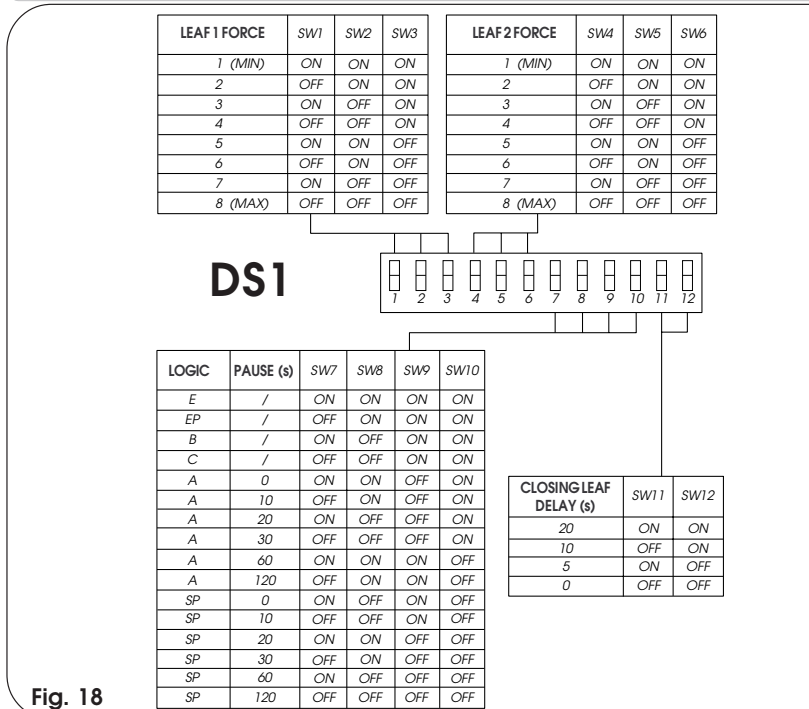
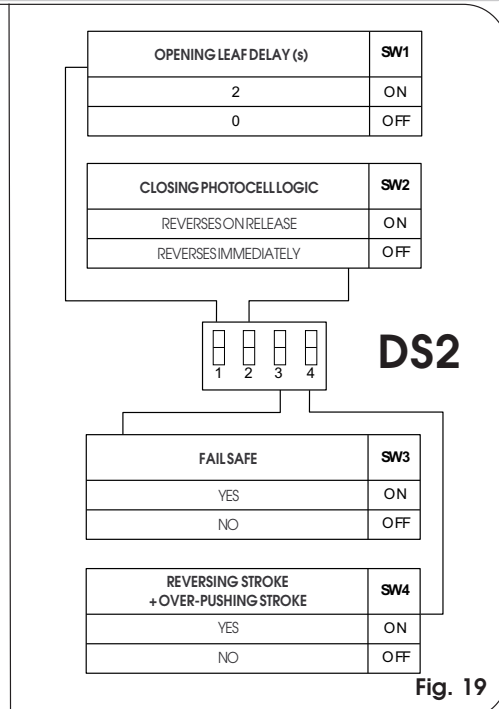

Fig. 18
Fig. 19
The equipment is endowed with two groups of microswitches - DS1 (fig. 18) and DS2 (fig.19) - which make it possible to program the gate operation parameters.
5.1. MICROSWITCHES DS1 (fig. 18)
5.2. MICROSWITCHES DS2 (fig. 19)